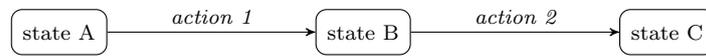

FIGURE 3 Generic Concise Process Diagram (CPD)
- Concise process diagrams — CPD_[T] (Figure 3)